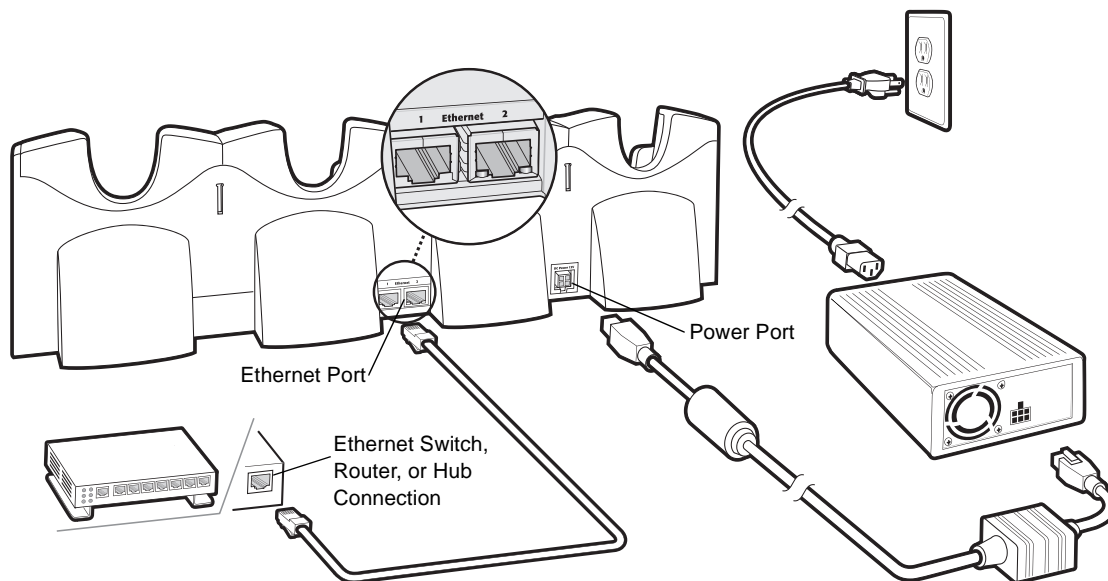

Figure 2-7 Four Slot Ethernet Cradle Connection
2. Connect an Ethernet cable to Port 1 of the first cradle as shown in Figure 2-7.
5. Connect power (see Figure 2-7 on page 2-7). The power supply should be located in the power supply well.